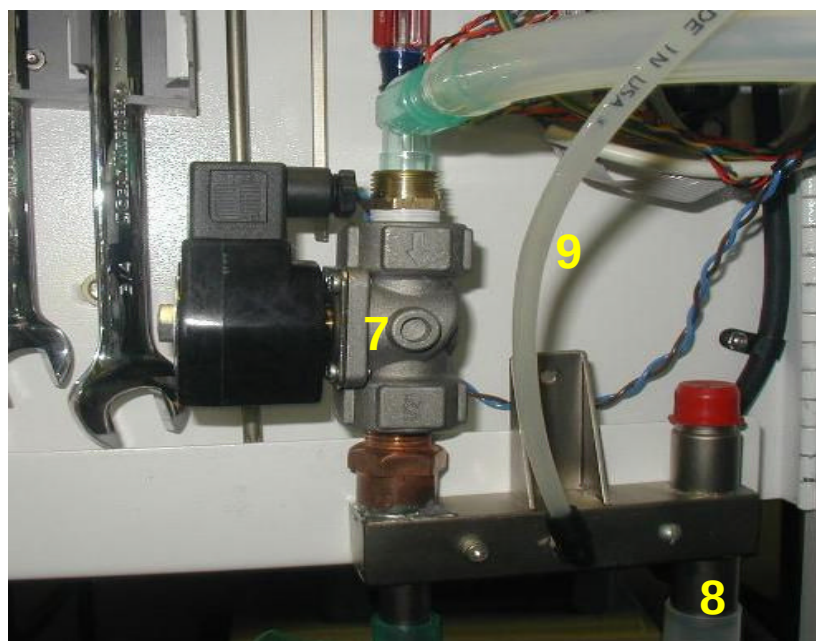

Figure 7
Waste gas from Tafonius is removed through a single evacuation or dump valve (7) that is fixed to the small manifold on the back door – Figure 7
With a piped evacuation line the extraction rate is set by the flow meter on the front of Tafonius. If the Dump valve (7) is closed then no gas can leave the system and the scavenging flow will be made up of room air coming in through the charcoal canister and flowing up the scavenge pipe (9). Whenever gas is removed from the system by the action of opening the Dump valve this gas is preferentially taken away by the evacuation line. Should the scavenging flow rate be insufficient for peak flow rates then any excess gas will pass out via the charcoal canister and be inactivated. In this mode the 22mm port on the exhaust manifold (8 in Figure 7) should either be blocked off or, for further efficiency, be fitted with a 2.0L – 5.0L reservoir bag.